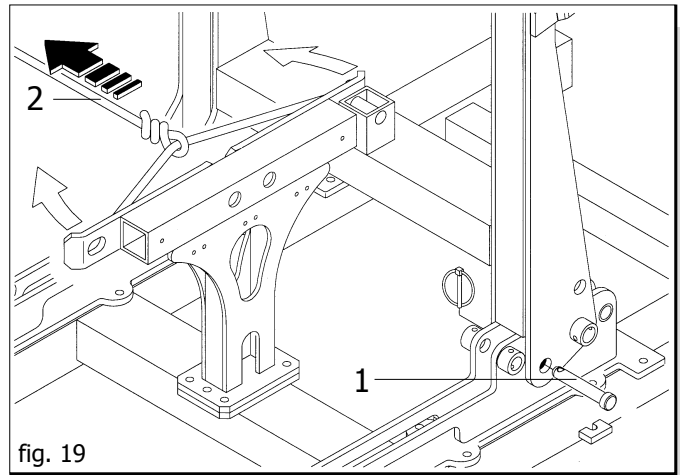
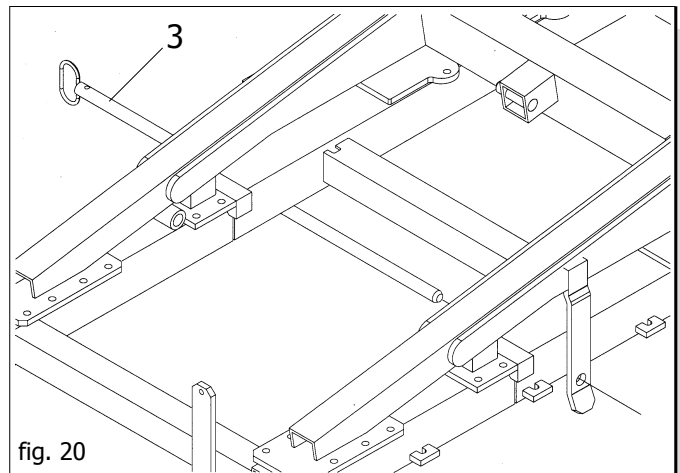

fig. 19
fig. 20
- Remove the safety pin (1 fig. 19)
- Release the safety device using the cord (2)
- Block in place using the pins (3 fig. 20)